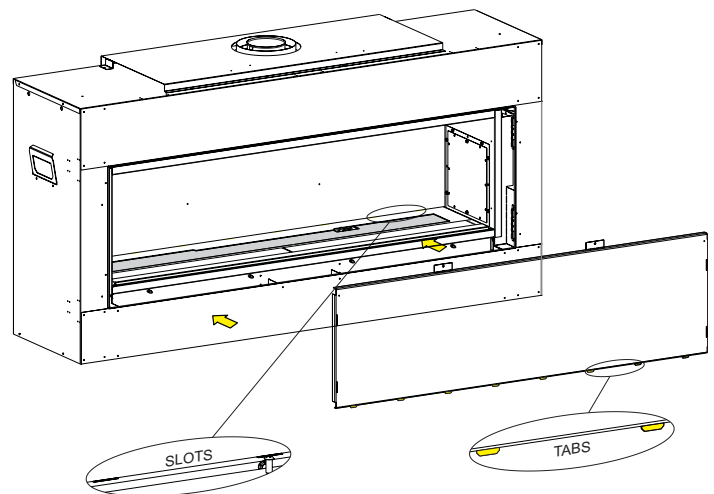

Figure 3
8. Install the Rear Panel by aligning the eight tabs on the bottom edge with the eight slots in the back rear of the firebox. **NOTE:** The eight slots are located behind the burner cover plate. **See Figure 3.**